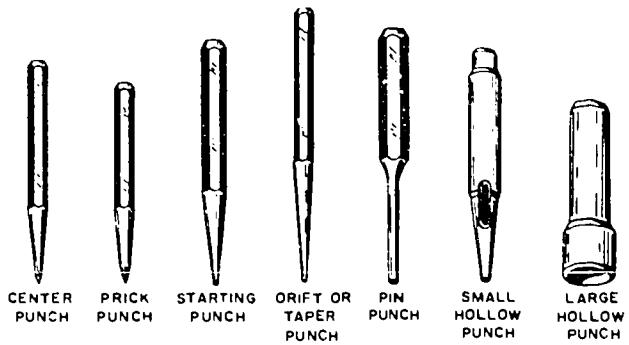

Figure 2-8. Hand punches.
**Hand Punches.** There are many types of hand punches that can be used in sheet metal shops; however, the punches illustrated in figure 2-8 are used more often than others. The heads and points should be kept in good condition in the same manner as chisels. The *center punch* is used to make a small depression in metal prior to drilling or punching. This depression prevents the twist drill from "walking" during the drilling operation. The *prick punch* is used to establish location points when laying out patterns on sheet metal. The *starting punch* is tapered for strength, has a blunt tip, and is used to loosen tight-fitting pins that are removed from a hole. A *drift punch* (taper punch) is also used to loosen tight-fitting pins, although its slender taper is not as strong as the starting punch. The drift punch is often used to align holes in two pieces of metal prior to installing screws, bolts, or rivets. The *pin punch* has no taper; it is used to drive out rivets which have had the heads drilled off and to drive pins out of holes too deep for the starting punch or drift punch. The starting punch, drift punch, and pin punch are blunt end punches and are sometimes called solid punches. *Hollow punches*, when used with suitable backup material are used to pierce holes in thin metal.